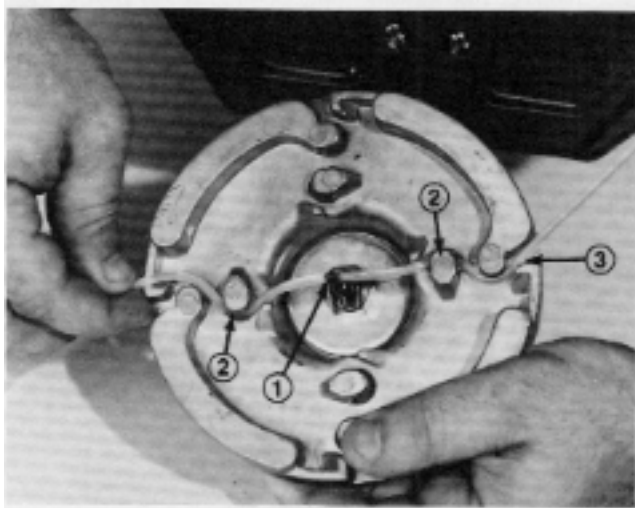

Figure 150
3. Thread the line through the cutter head guides as shown in Figure 150. Make sure that the centerline mark lines up on the cutter head shaft.